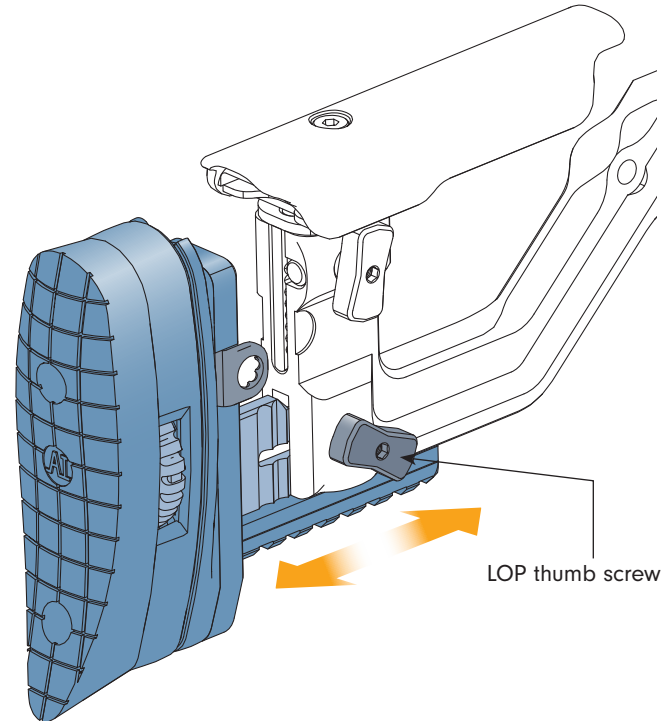

Fig 2-9
- Loosen the lower butt length of pull (LOP) thumb screw located on the rear chassis right-hand side (see Fig 2-9).